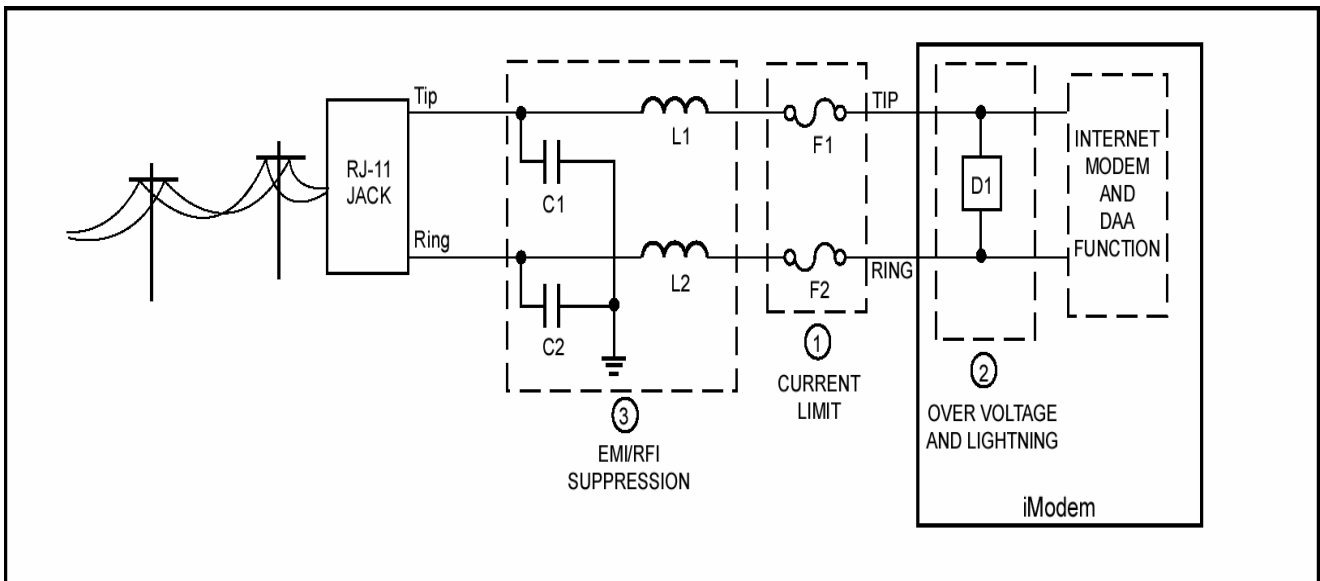

Figure 3. PSTN Line Interface for all iNet Appliance Products.
Pins 1 and 2 function as both input and output connections to the PSTN. To maximize field reliability in hostile environments, to ensure UL compliance, and also optionally for FCC part 15 compliance, these two pins may be routed through an external network such as that briefly described in figure 3 or as described in more detail in Cermetek Application Note # 126, Supplemental PSTN Line Protection.
- No additional circuitry other than that shown in Figure 3 may be connected between the iModem module and the RJ-11C jack. Doing so will invalidate the conveyed FCC approval.
- A. Surge Protection is provided by internal circuitry (see Figure 3). No additional external components are required to maintain conveyed FCC Part 68 approval.